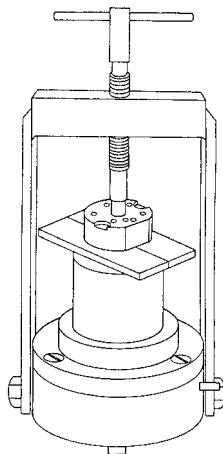

Figure 7.11
- B. Place rotor (10) on T152 spacer. Place T151 rotor tool over rotor shaft. (See Figure 7.11).